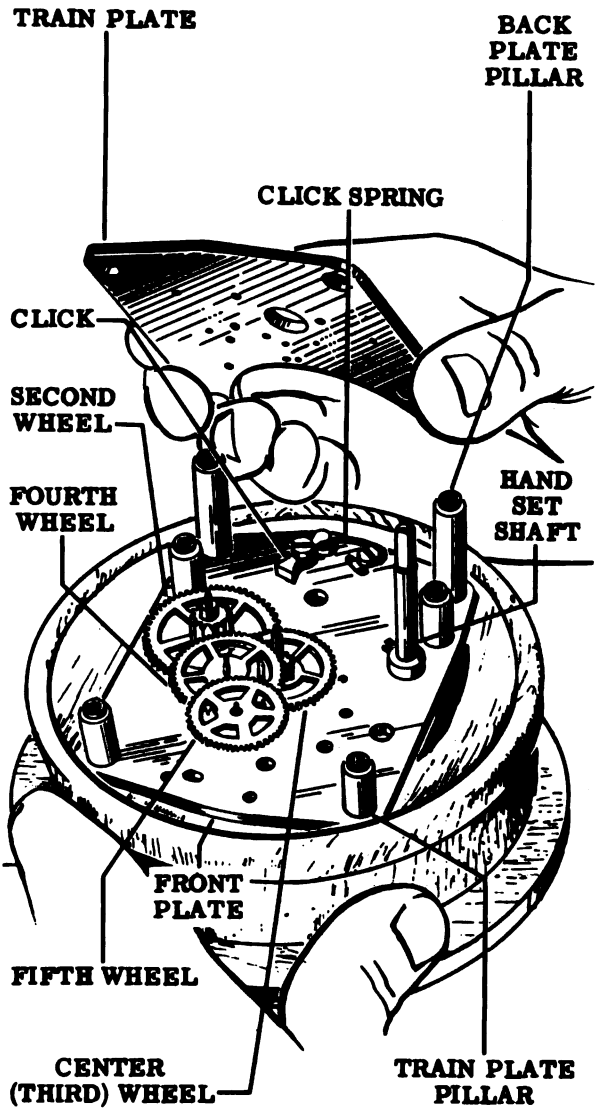

Figure 47
A. Fig. 47 shows lifting off the train plate for Boat and Deck Clocks.